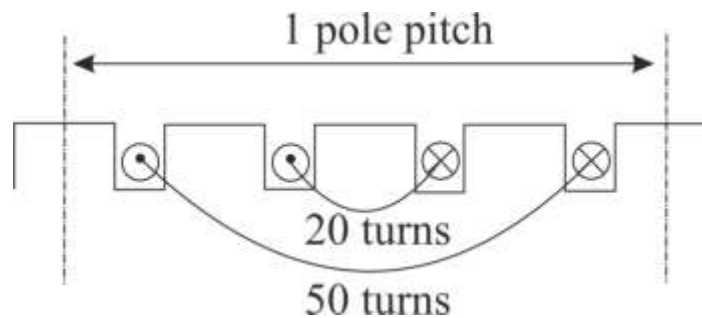

Figure 2
2. a. Derive general expressions for the winding pitch factor, K_p , and the distribution factor, K_d , for both the fundamental and the n^{th} harmonic components in the EMF. Based on the coil EMF vectors, in order to obtain a maximum winding factor, determine the coil connections for a 3-phase, 12-slot, 4-pole surface mounted permanent magnet machine with distributed windings. (6)
- b. Show that the winding skew factor can be derived using a similar method as for the winding distribution factor. Explain the main advantages and disadvantages of using winding skew. (4)
- c. A concentric winding is distributed in the slots over one pole pitch in a machine having evenly spaced slots, as shown in Figure 2. Calculate the winding factor for the fundamental component of EMF.